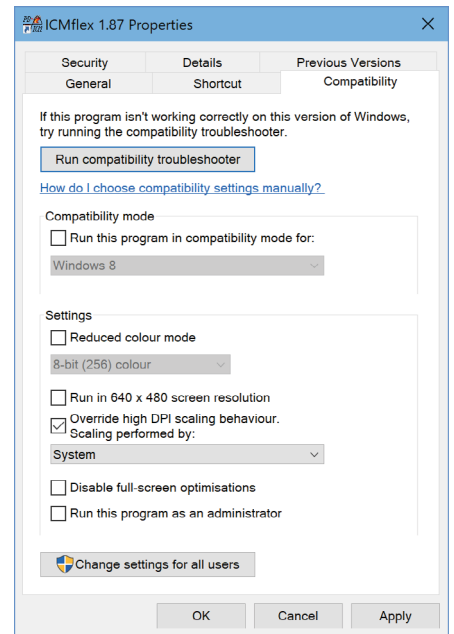

Figure 107: Properties window
2. Choose "Properties" from the context menu, which will open the "Properties" window (Figure 107).